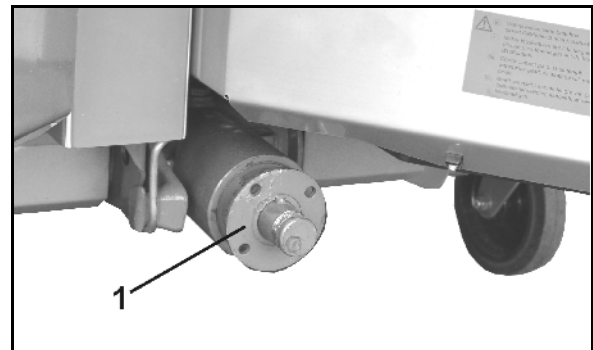

Fig. 24
5. Place the PTO shaft in the holder provided (Fig. 24/1).